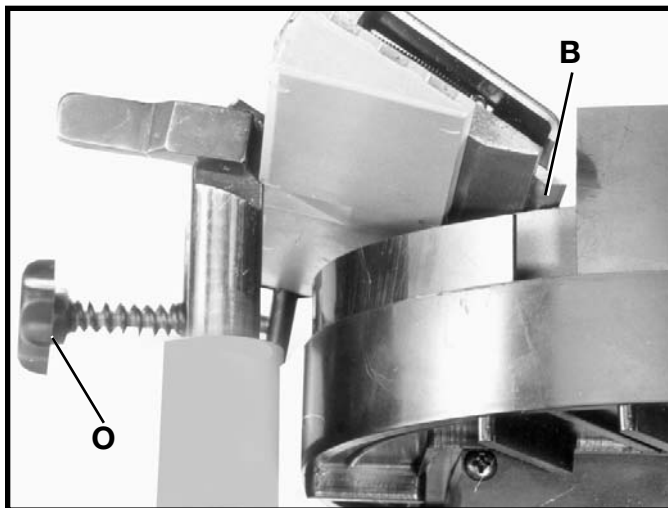

Fig. 56
7. Check to see if the bevel edge of the knife (B) Fig. 56, is flat on the grinding wheel. If an adjustment is necessary, turn tilting screw (O) Fig. 56, until the edge of the knife is flat on the grinding wheel.